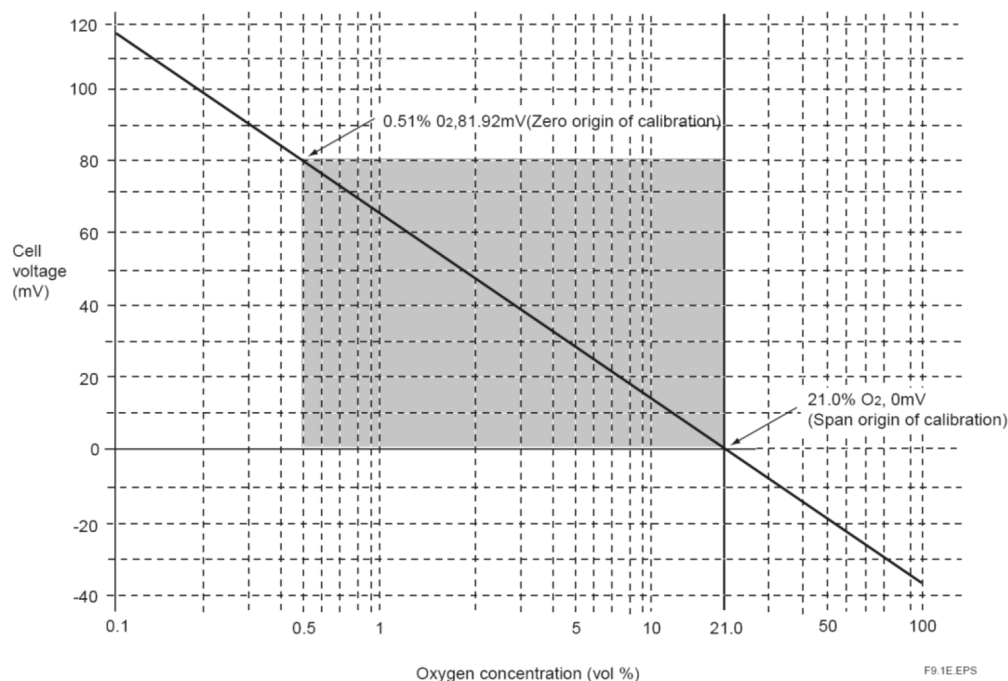

Figure 2.1
With this analyzer, the sensor (Zirconia element) is heated up to 750°C, so Equation (2) is valid. At that point, the relationship as in Figure 2.1 is effected between the oxygen concentration of the measurement gas in contact with the positive electrode and the electromotive force of the sensor (= cell), where a comparison gas of air is used on the negative electrode side.